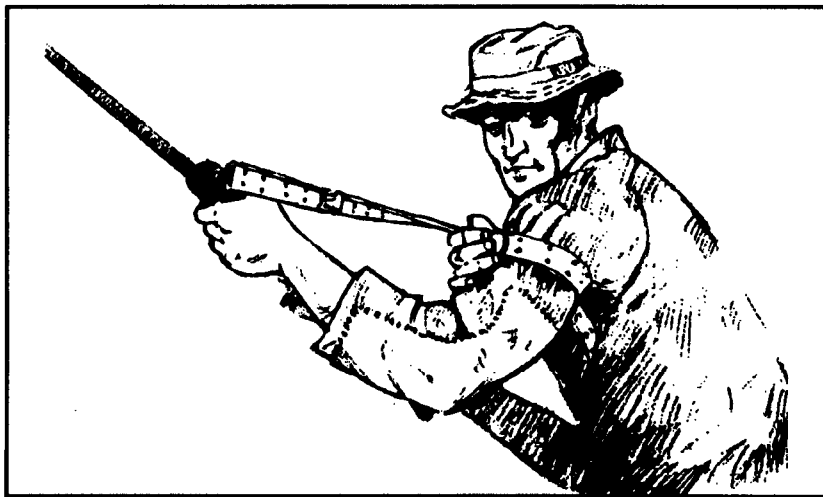

Figure 2-11. Placing the sling around the nonfiring arm.
(5) The sniper slides the loop in the large section of the sling up the nonfiring arm until it is just below the armpit (Figure 2-11). He then slides both leather keepers down the sling until they bind the loop snugly round the nonfiring arm.